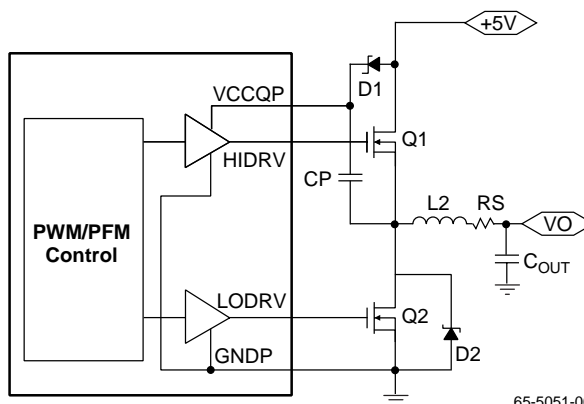

Figure 3. Charge Pump Configuration
Figure 3 shows the use of a charge pump to provide gate bias to the high side MOSFET when +12V is unavailable. Capacitor CP is the charge pump used to boost the voltage of the RC5051 output driver. When the MOSFET Q1 switches off, the source of the MOSFET is at approximately 0V because of the MOSFET Q2. (The Schottky D2 conducts for only a very short time, and is not relevant to this discussion.) CP is charged through the Schottky diode D1 to approximately 4.5V. When the MOSFET Q1 turns on, the voltage at the source of the MOSFET is equal to 5V. The capacitor voltage follows, and hence provides a voltage at VCCQP equal to almost 10V. The Schottky diode D1 is required to provide the charge path when the MOSFET is off, and reverses biases when VCCQP goes to 10V. The charge pump capacitor (CP) needs to be a high Q, high frequency capacitor. A 1 $\mu$ F ceramic capacitor is recommended here.